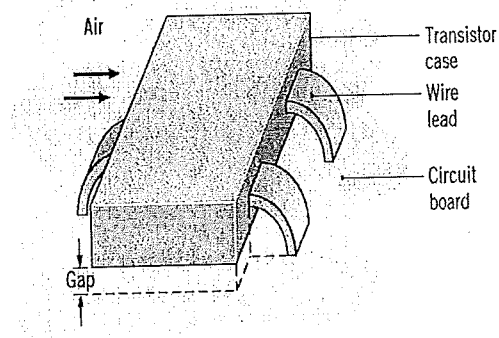

Figure 6 : A surface mount type transistor.
- [b] Insulating power of a wall is given in Figure 5 below. The "insulating power" of a wall can be measured by means of the arrangement shown in the Figure 6. One places a plastic panel against the wall. In the panel, two thermocouples are mounted flush with the panel surfaces. The thermal conductivity and thickness of the plastic panel are known. From the measured steady-state temperatures shown in the Figure, estimate in SI units the following properties. It is given $1 \text{ Btu} = 1055.056 \text{ J}$.
- [b] Consider a surface-mount type transistor on a circuit board as shown in Figure 6 whose temperature is maintained at 35°C . Air at 20°C flows over the upper surface with dimensions 4 mm by 8 mm with a convection coefficient of $50 \text{ W/m}^2\cdot\text{K}$. Three wire leads, each of cross section 1 mm by 0.25 mm and length 4 mm, conduct heat from the case to the circuit board. The gap between the case and the board is 0.2 mm. Assuming the case is isothermal and neglecting radiation, estimate the case temperature when 150 mW was dissipated by the transistor at the following conditions.